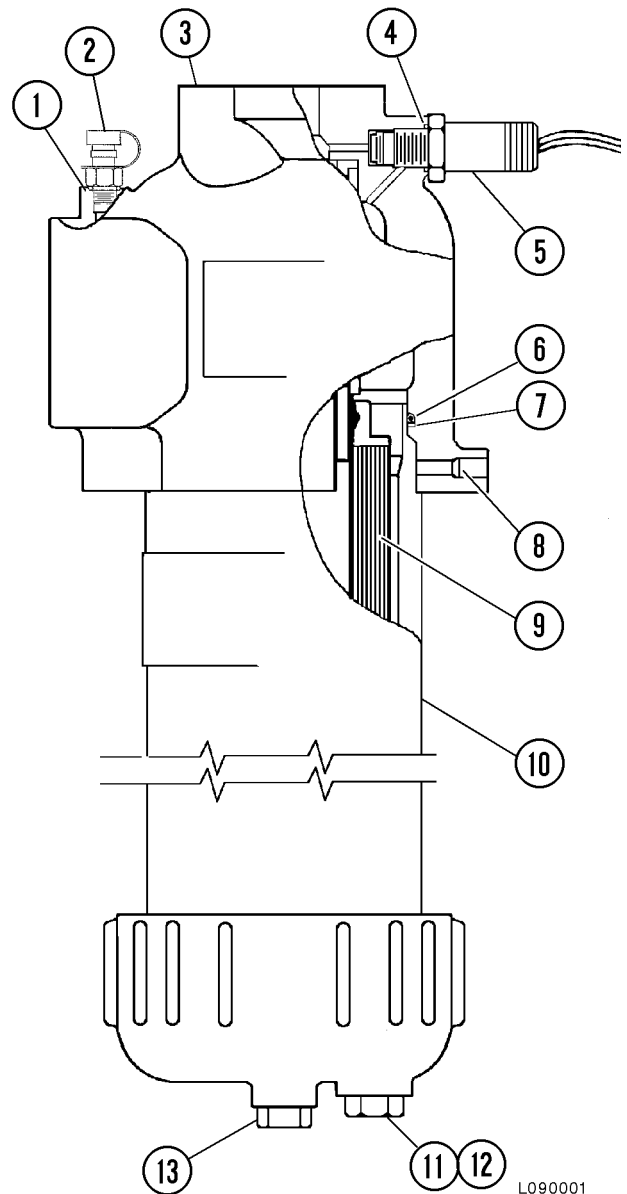

FIGURE 9-1. HOIST CIRCUIT FILTER
The hoist circuit filters (Figure 9-1) are located at the back of the fuel tank below the right frame rail. The filter provides secondary filtering protection for hydraulic oil flowing to the hoist valve and hoist circuit components.
2. Remove drain plug (11, Figure 9-1). Remove bottom plug (13) and drain the oil from the housing into a suitable container.
Indicator switch (5, Figure 9-1) is factory preset to actuate at 240 kPa (35 psi). The switch and warning light should be routinely tested as a part of the regular vehicle maintenance program. Refer to Indicator Switch Test Procedure in this section.